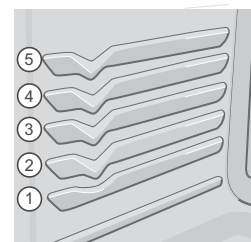

Figure 11: Rack positions
- Do not clean the oven door gasket (Figure 11). The woven material in the gasket is essential for a good seal. Care should be taken not to rub, damage or remove the oven door gasket. Doing so could cause damage to the door gasket and compromise the performance of the oven.